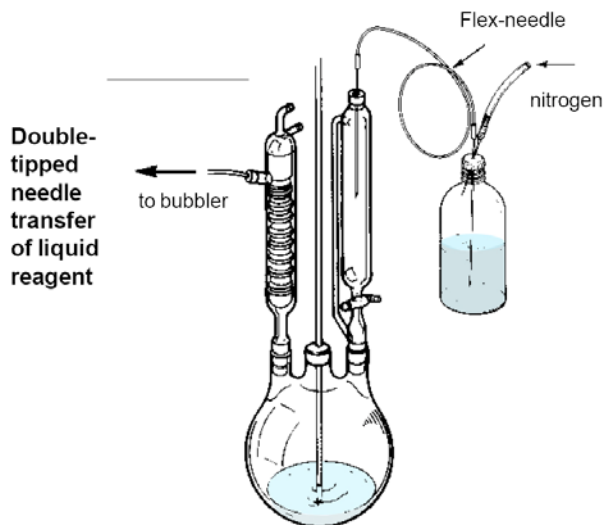

Fig. 2 Double-tipped needle transfer of liquid reagent
- The reagent can be dispensed using a syringe or double-tipped needle (16, 18 or 20 gauge) inserted through the hole in the metal cap, as shown in fig. 2 below. It is recommended that the plastic cap be replaced after each use and in particular for long-term storage.